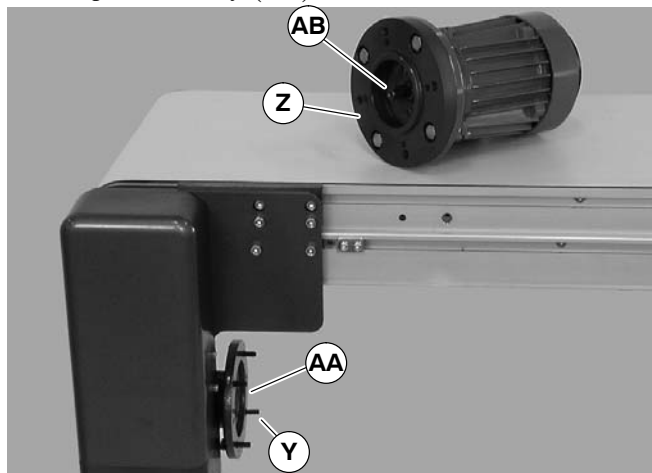

Figure 22
4. Remove four (4) screws (Y of Figure 22). Detach motor (Z) from gear reducer (AA). Retain motor output shaft key (AB).